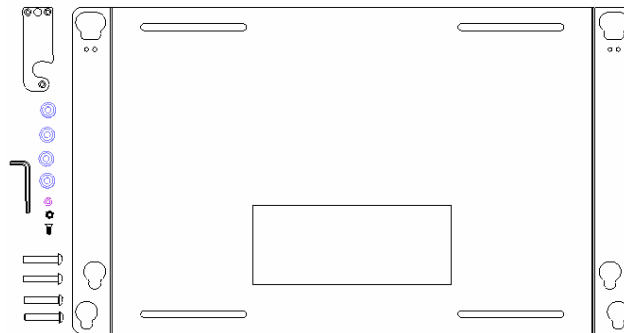

Figure 1
(1) 5mm Allen Key
**BEFORE PROCEEDING:** Unpack the carton, verify contents shown in Figure 1 and read installation instructions completely. If you are missing any of the listed components, please contact Customer Service at 1-800/582-6480.